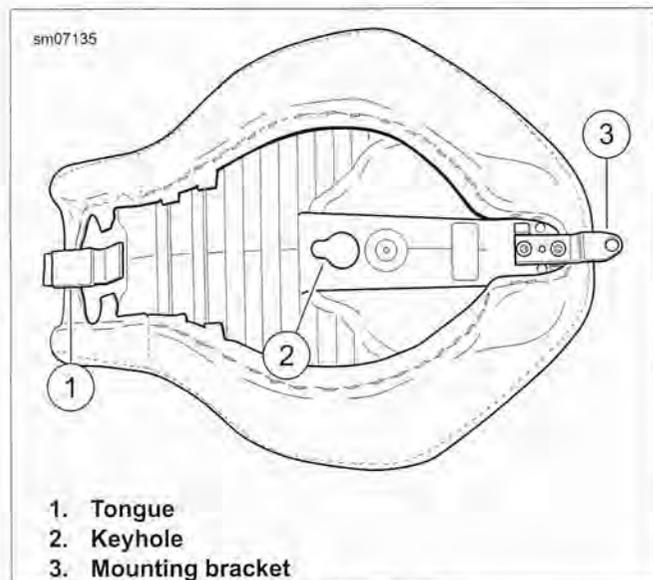

Figure 2-217. Seat: XL Solo
- **Solo Seat:** See Figure 2-217.